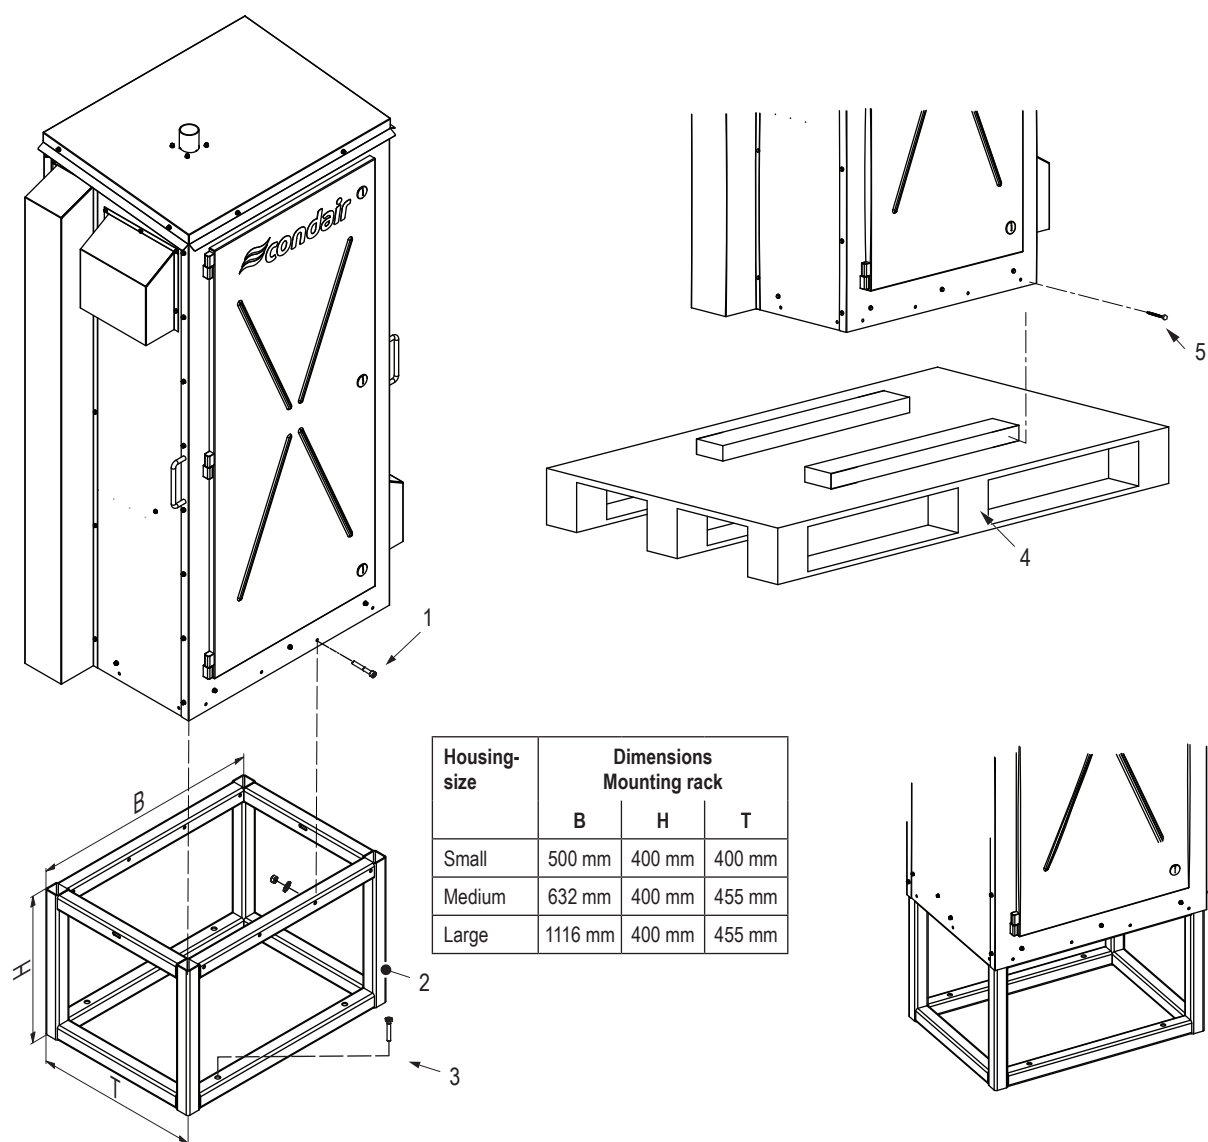

Fig. 11: Installation on a Mounting Rack
3. Install the mounting rack and anchor it securely to the floor or rooftop with suitable anchor bolts (supplied by others). Refer to Fig. 11.